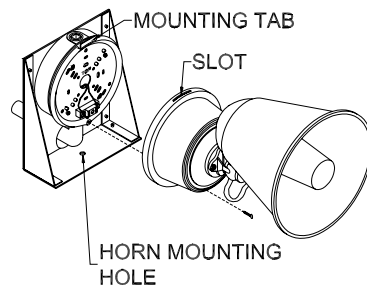

Figure 12 Horn Assembly and Mounting
17. Fasten the horn assembly to the scoreboard using the mounting bolts from the scoreboard as seen in figure 12.